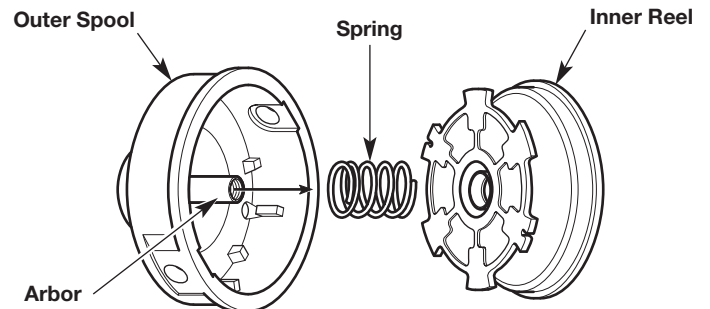

Fig. 28
NOTE: The outer spool (Fig. 28) will remain attached to the unit.
3. Remove the inner reel from the outer spool (Fig. 28).
4. Remove the spring from the inner reel (Fig. 28).